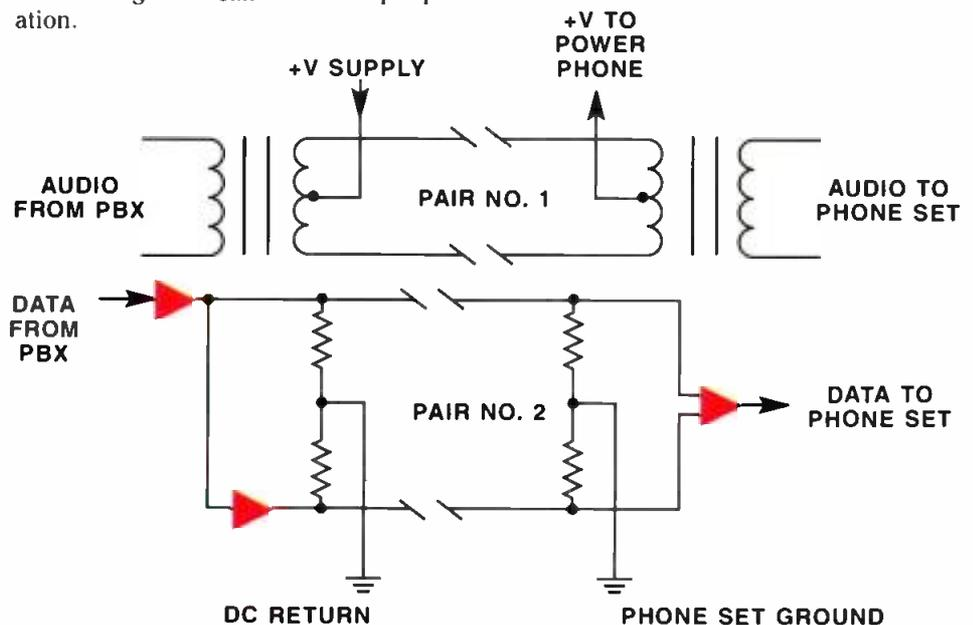

Figure 1. A common electronic phone wiring scheme using two pairs and phantom power. (Diagram shows data flow in only one direction for simplicity.)
- *Two pair, phantom power.* The most common approach used for electronic phones is the 2-pair, 4-wire scheme. In this scheme, the audio and data each use one of the two pairs. The power is "phantom," applied between the two pairs in a way similar to the method used for the phantom powering of condenser microphones in studios. A transformer at each end of the audio pair permits the phantom power to be added. The data pair will probably use resistors to obtain a "center tap," rather than transformers, because the data signal has a DC component that could not pass through a transformer. (See Figure 1.)